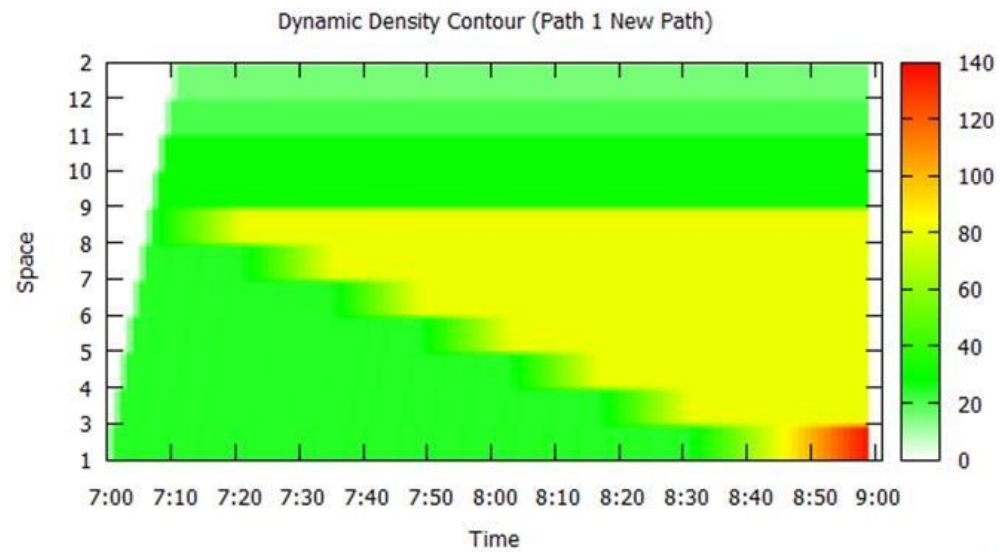

Fig.28. Density contour of path 1 in case 2
3) View its density contour shown in Fig.28.